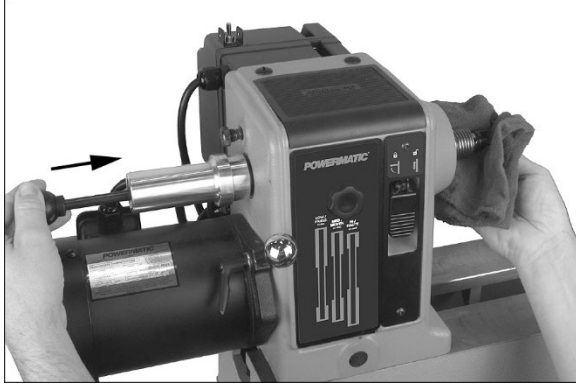

Figure 8-5: removing center from headstock
- To *remove* the spur center, first remove workpiece from Lathe. Insert knockout rod (Figure 8-5) through hole in handwheel and firmly tap tapered end of spur center.